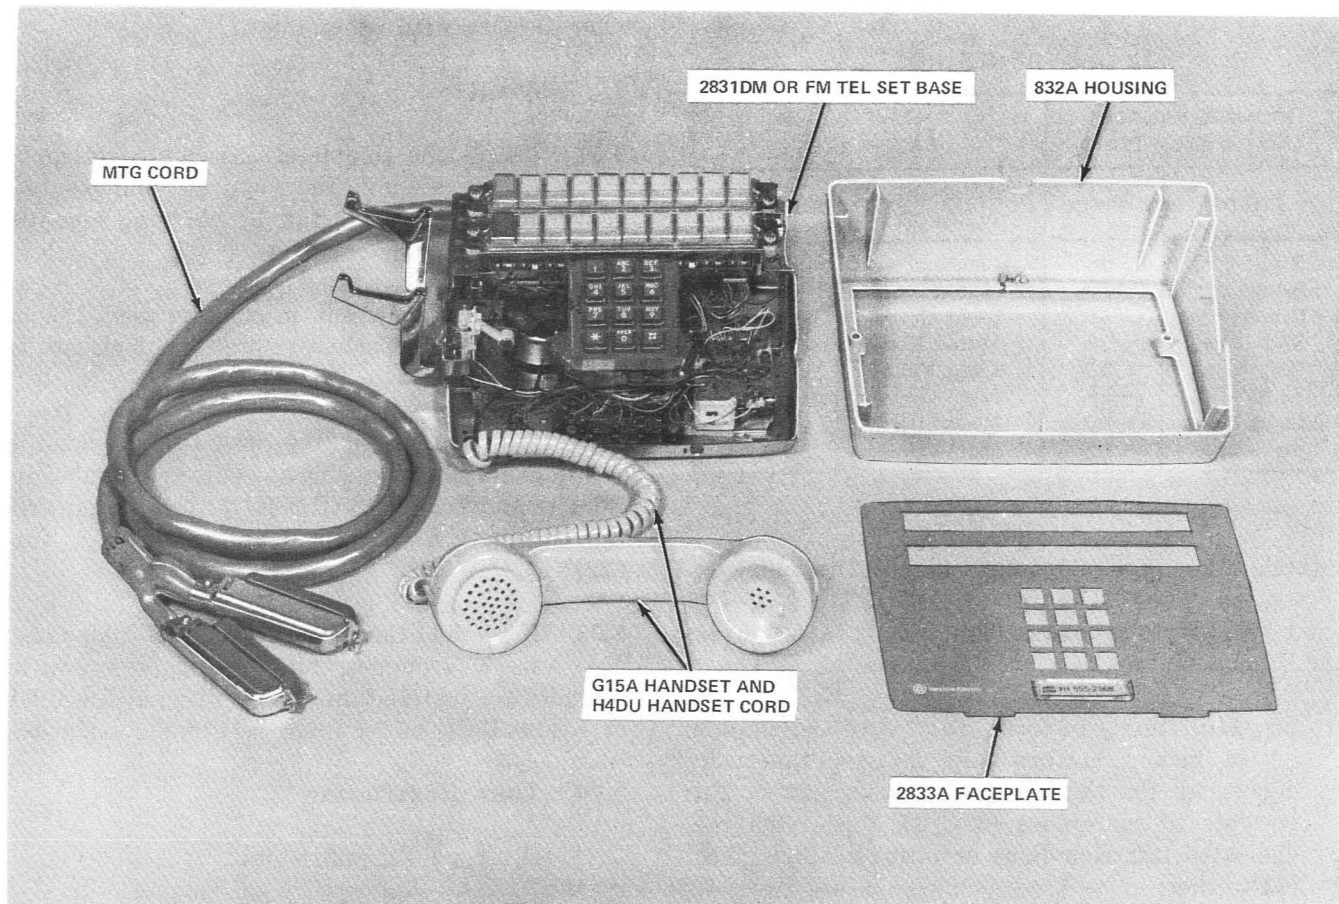

Fig. 2—Station Modular Arrangement, 2831DM (MD) or 2831FM Telephone Set
3.01 Install the completely assembled telephone set or assemble the required components as shown in Fig. 2 and install by plugging mounting cord into connector cable.